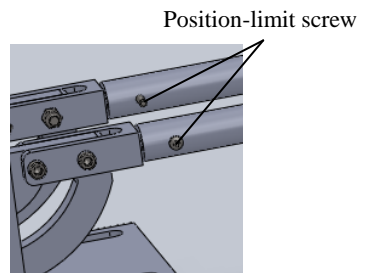

Figure 9
③ Connect the handle with the control mechanism, let the pulled out position-limit screw into the connection holes as shown in figure 9: